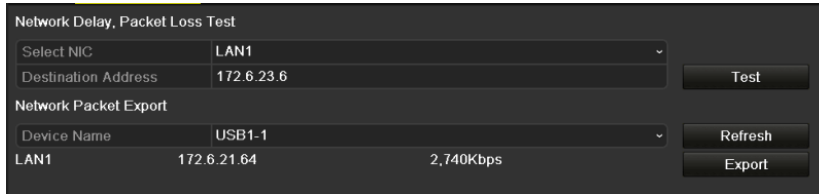

Figure 11-31 Export Network Packet
Step 3 Select the backup device from the dropdown list of Device Name, as shown in Figure 11-31.